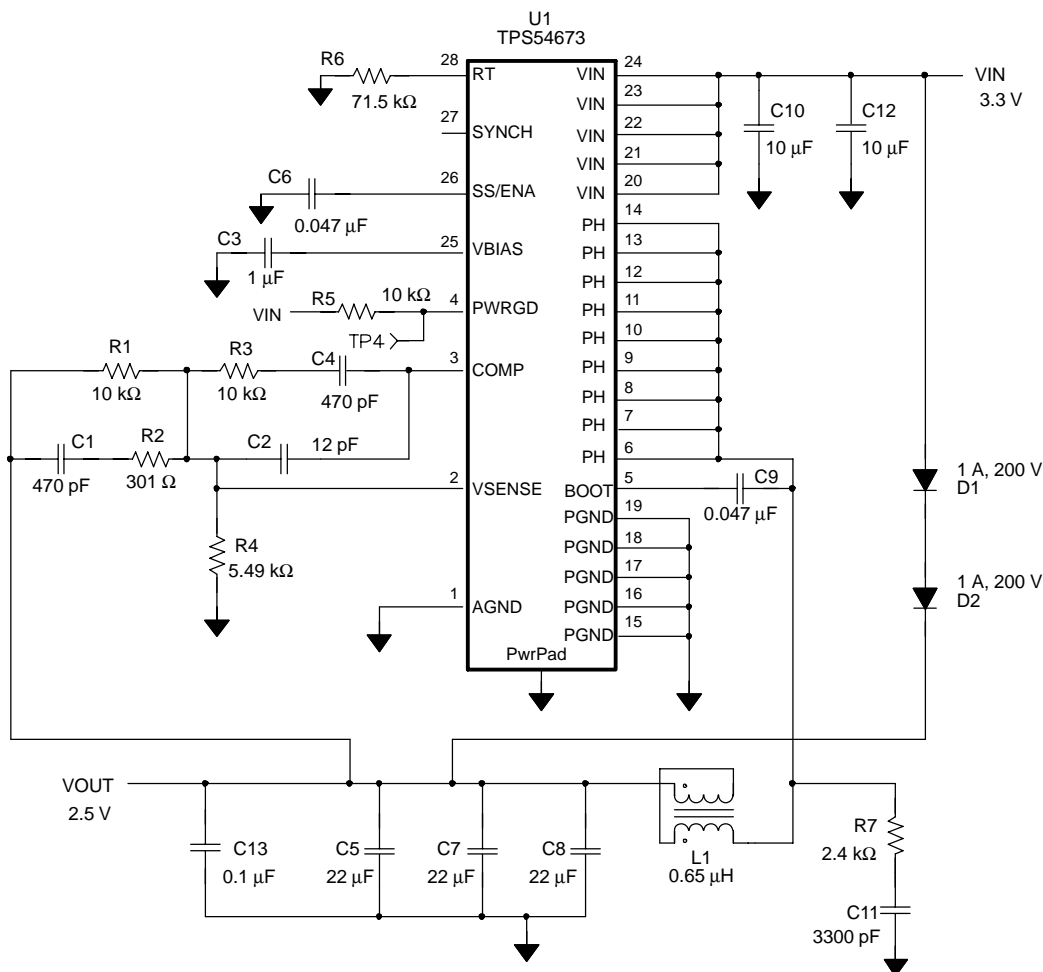
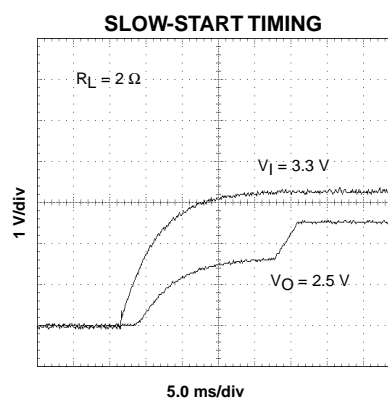

Figure 10. Application Circuit
Figure 19
(1) Specified by design
(2) Static resistive loads only
(3) Specified by the circuit used in Figure 10
⁽³⁾ Specified by the circuit used in Figure 10
Figure 10 shows the schematic diagram for a typical TPS54673 application. The TPS54673 (U1) can provide up to 6 A of output current at a nominal output voltage of 0.9 V to 3.3 V, and for this application, the output voltage
Data shown is for the circuit in Figure 10 with precharge disabled (D1 and D2 removed) except for slow-start timing of Figure 19. All data is for $V_I = 3.3\text{ V}$, $V_O = 2.5\text{ V}$, $f_s = 700\text{ kHz}$ and $T_A = 25^\circ\text{C}$, unless otherwise specified.